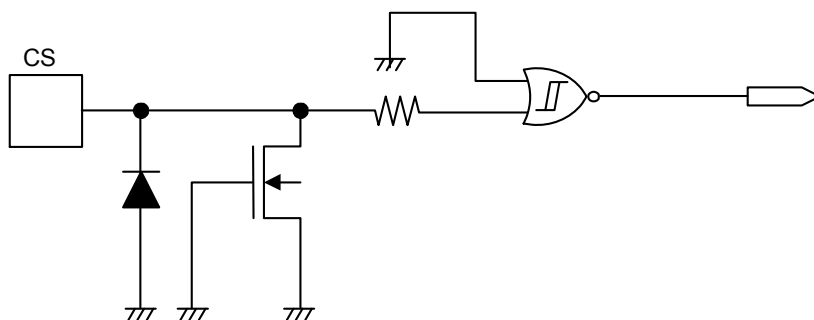
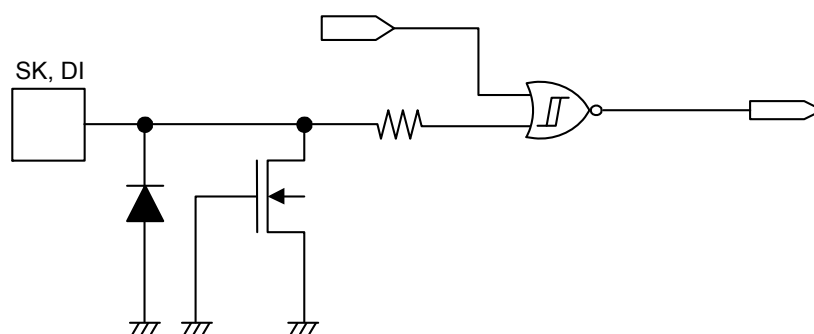
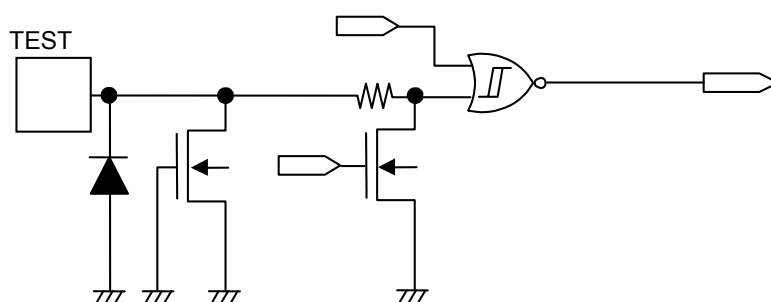

Figure 23 CS Pin
Figure 24 SK, DI Pin
Figure 25 TEST Pin
**Figure 23**, **Figure 24** and **Figure 25** show the equivalent circuits of input pins in this IC. In **Figure 23** and **Figure 24**, none of the input pins incorporate pull-up and pull-down elements, so special care must be taken when designing to prevent a floating status.
In **Figure 25**, the TEST pin has a built-in pull-down element.